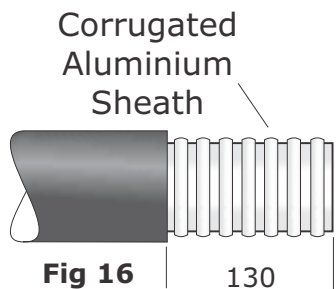
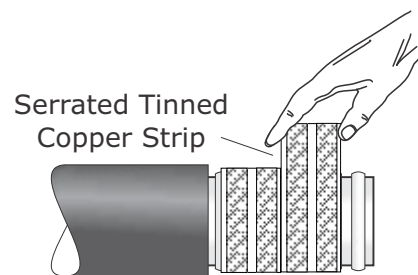

Fig 16
Fig 17
22. If picas, expose aluminium layer to 130mm as in Fig 16. Clean and abrade and wrap two turns of serrated tinned copper strip around it in place of the tinned copper mesh (Fig 17). For an improved connection, abrade metal sheath and apply approved jointing compound e.g penetrox over the earth bond area. This stage could be completed at a later stage prior to fitting the armour cage.